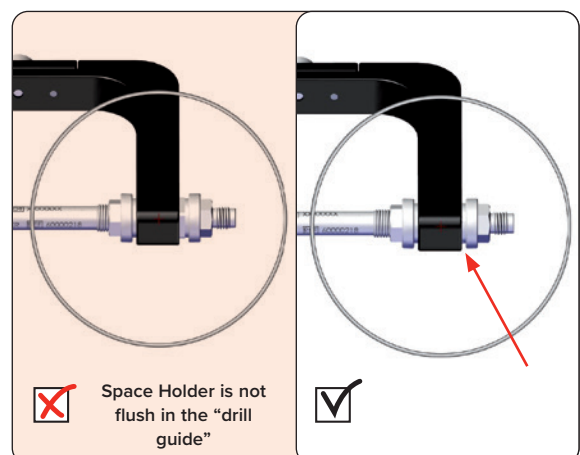

Fig. 43 Space holder wrongly inserted
2. The Space Holder is not completely flush with the Drill Guide Assembly (Fig. 43).